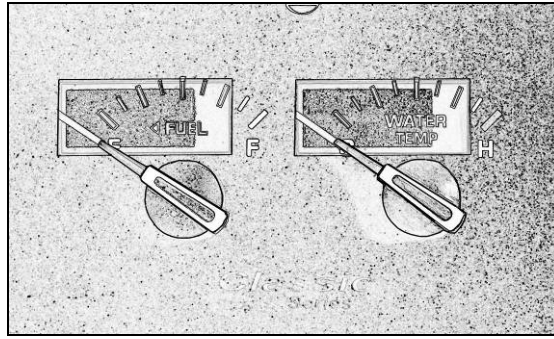

Figure 13
- B. Now that the gauges are all resting on there internal stops, slowly rotate a pointer CCW past the internal stop until the pointer blade is lined up with its Calibration Point that is marked on the small overlay. The pointers will rotate on the gauge shafts with light resistance. The Calibration Points are represented as a thick line that runs diagonal across the overlay (see figure 13). Remember for the 6 Gauge Clusters the Voltage and Oil Pressure gauges will rotate in the opposite direction.